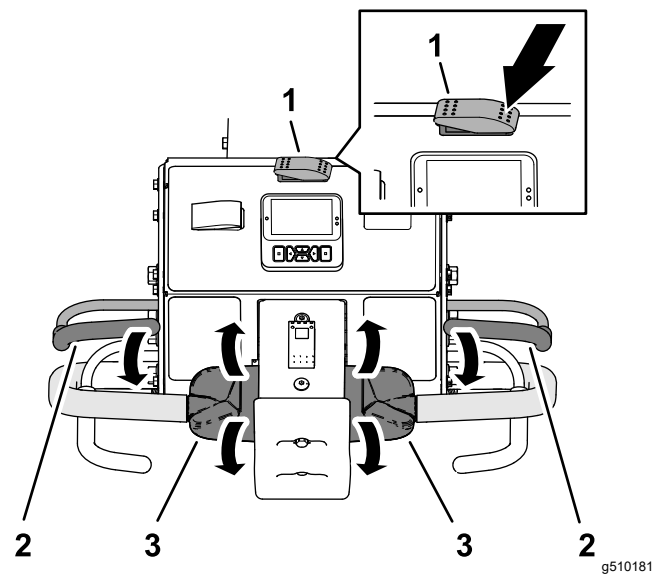

Figure 76
3. Press the left side of the transport/aeration switch to the TRANSPORT position (Figure 76).
5. Grasp the left or right handlebar and the operator-presence bail (Figure 76), and squeeze the bail to the handle.